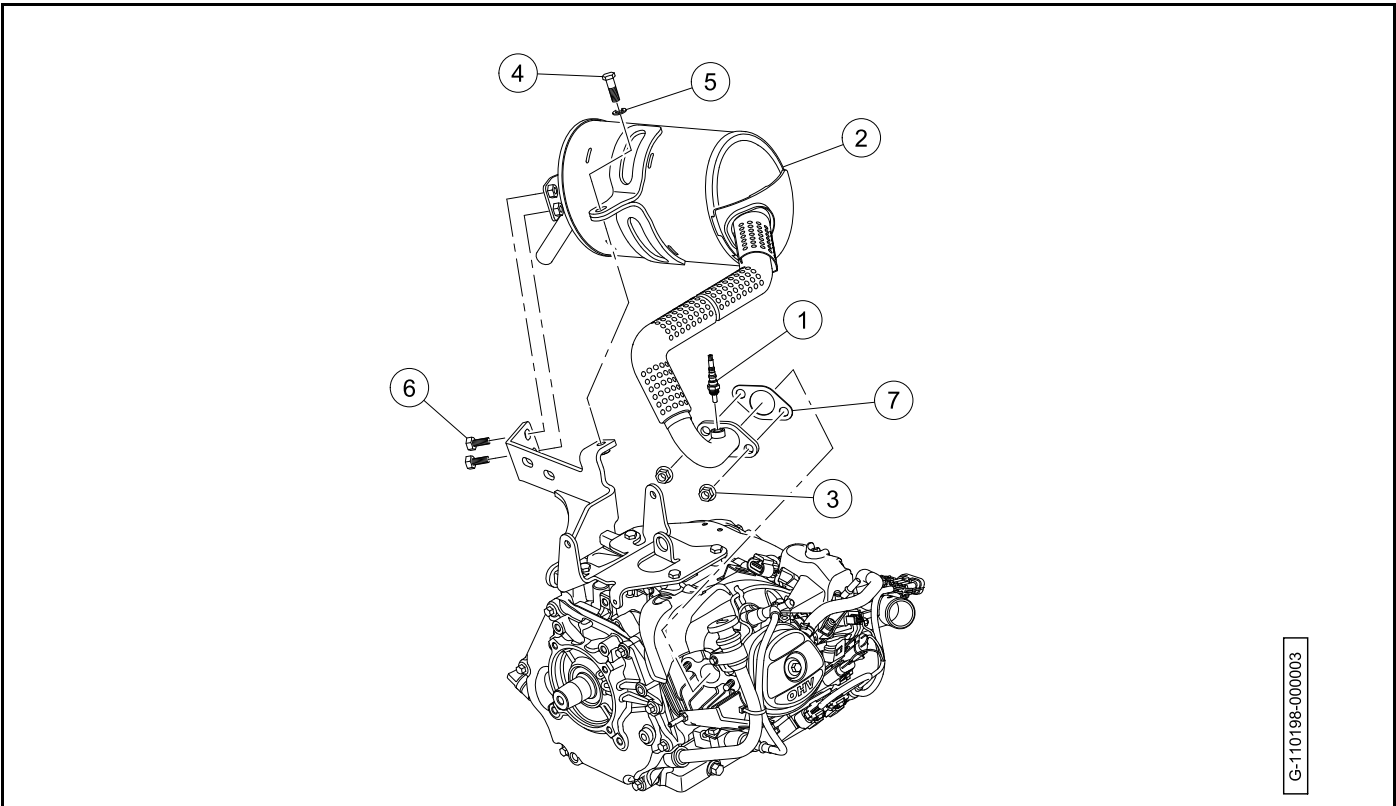

Figure 22-2 Muffler Installation
1. Install the new exhaust gasket (7) on the exhaust port studs (Figure 22-2, Page 22-2).